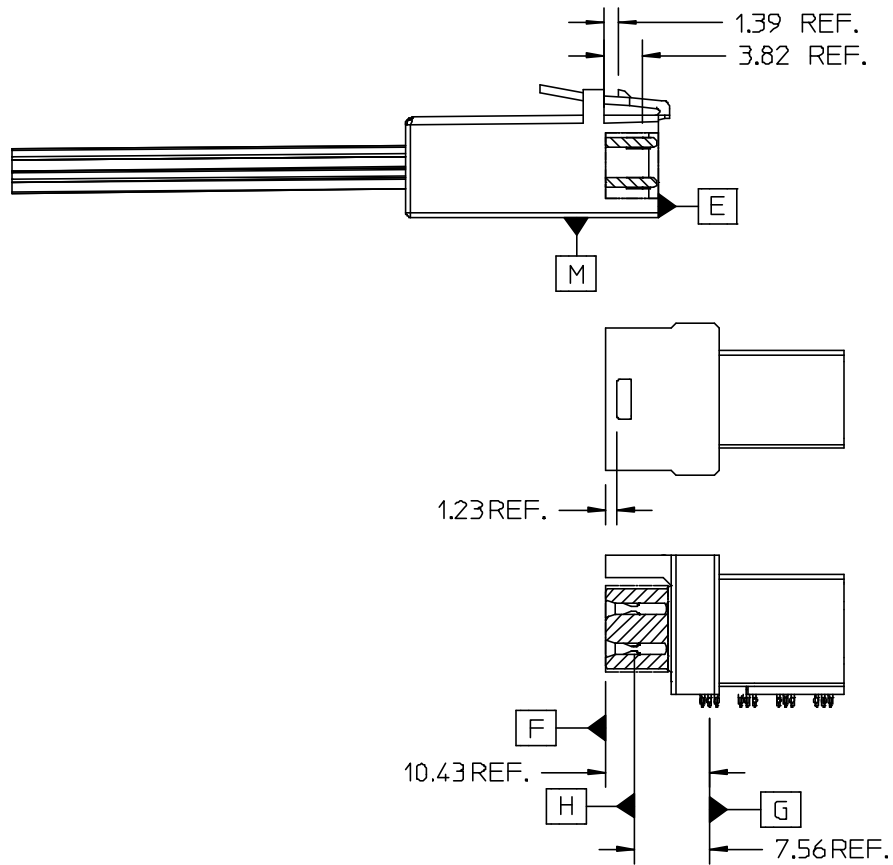

FIGURE 5.1 DEFINITION OF DATUMS
- Figure 5.1 Definitions of Datums